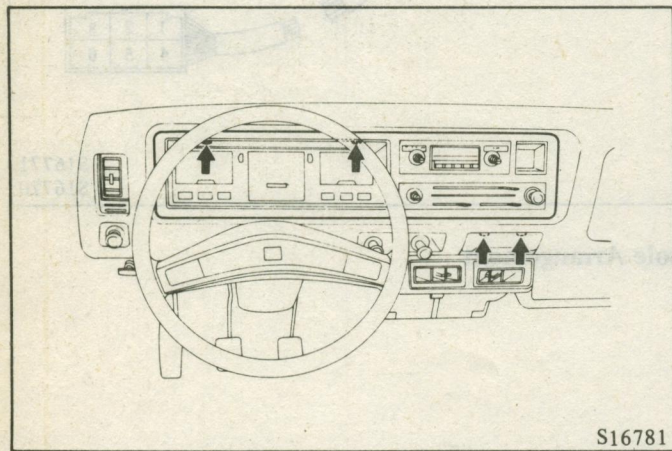

Fig. 86 Removing Instrument Cluster Bezel
(2) Remove the four screws as shown in Fig. 86 and pull out the instrument cluster bezel.